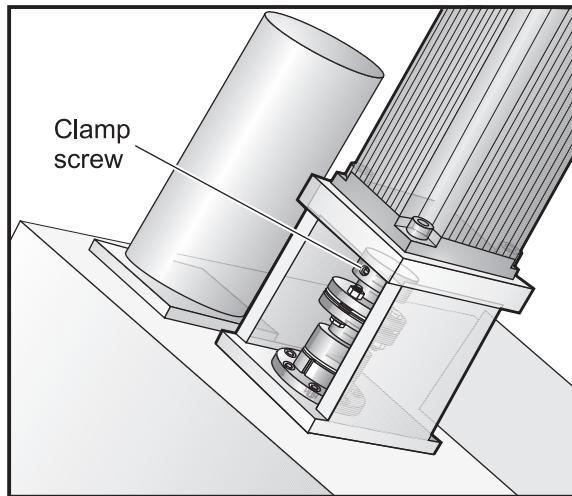

Figure 3.1-1. Turret motor adjustment.
3. Loosen the turret motor coupling clamp screw closest to the motor. (Refer to Figure 3.1-1)